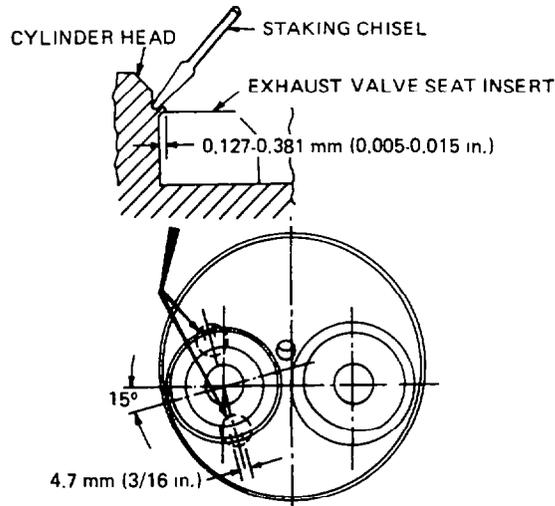

Fig. 36 — Staking Inserts
- d. Stake the exhaust valve seat insert in two places diametrically opposite so that 0.13 – 0.38 mm (0.005 – 0.015 in.) of cylinder head material overlaps the edge of the inserts (see fig. 36).